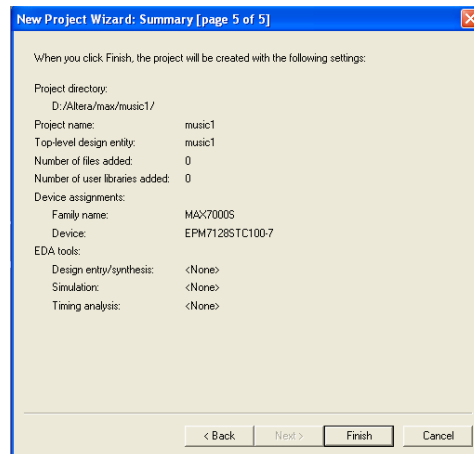

Figure 3.4: Summary.
- i) Click Finish. (Refer Figure 3.4)